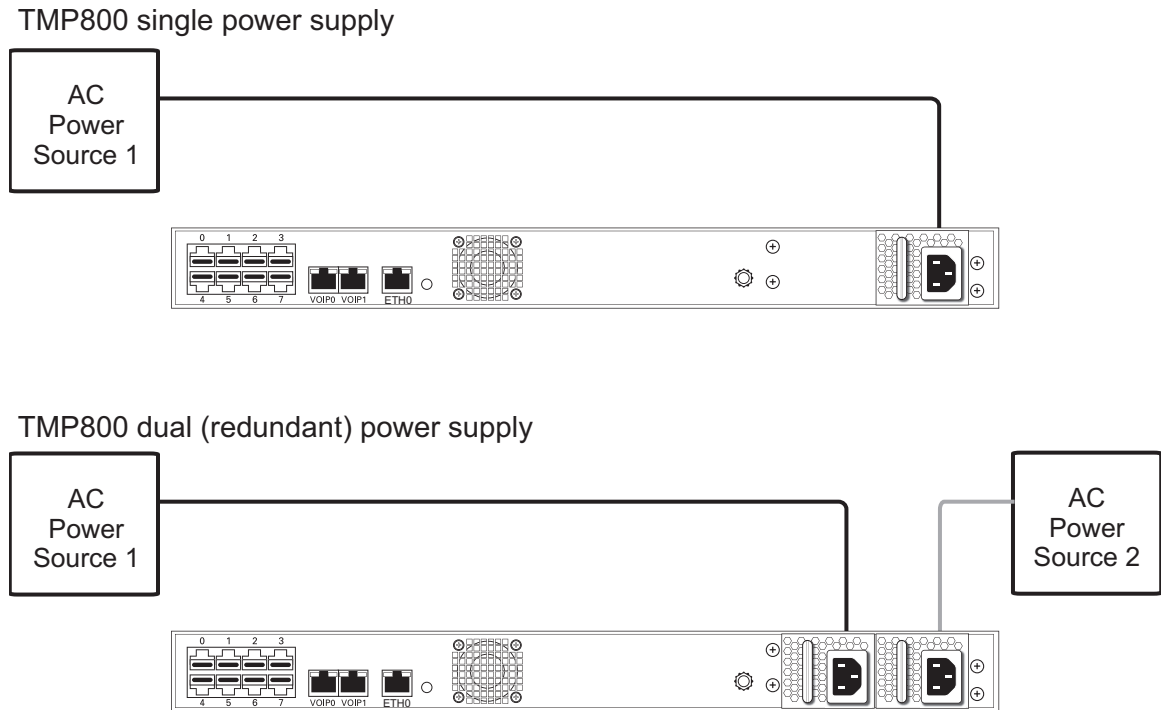

Figure 2.25 AC Power Connection
1. Connect an AC power cable to each AC connector of the TMP800 and an AC supply. See figure 2.25 on page 30.